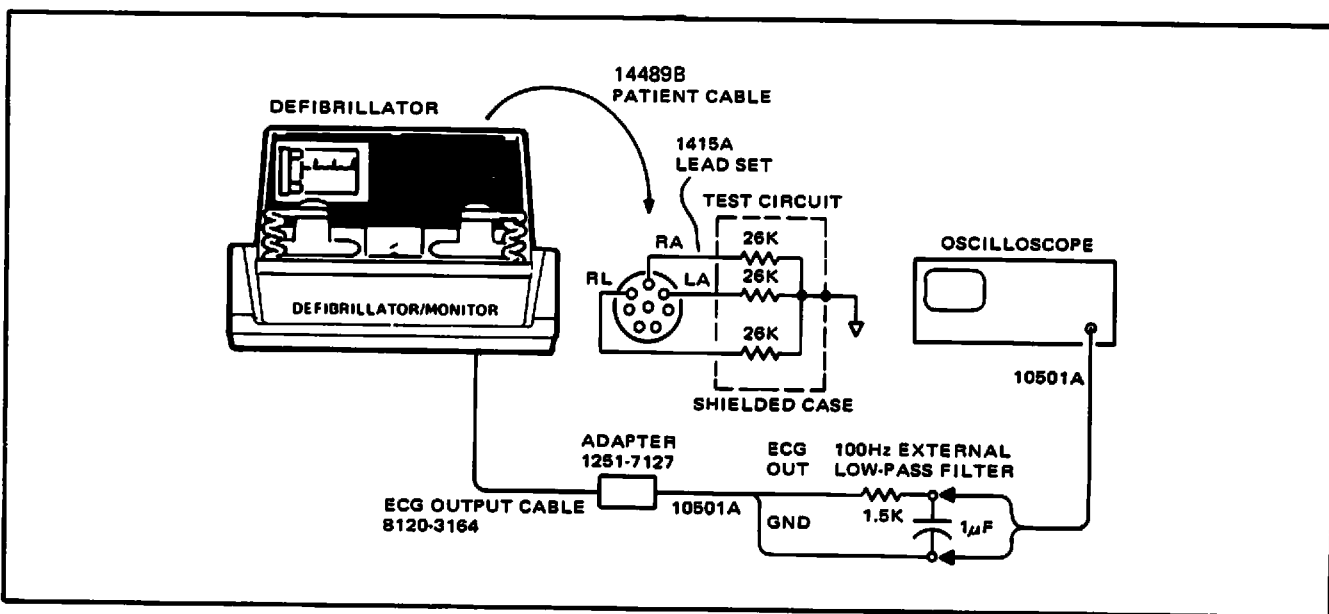

Figure 3-17. ECG Amplifier Noise, Leads Input Test Setup.
4. Connect the equipment as shown in Figure 3-17.